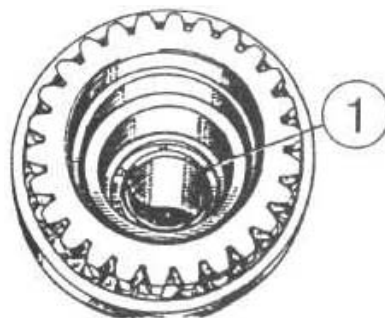

Figure 4.51
g) press sealing ring 1 (Figure 4.51) off the shaft of PTO drive.